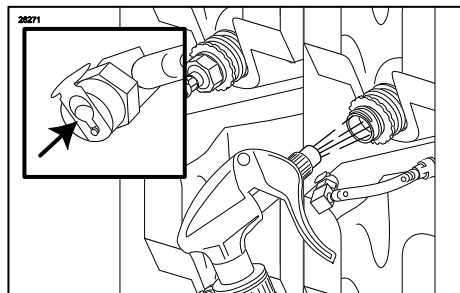

Figure 161
10. Using a spray bottle of approved sanitizer solution, spray the syrup bag fitment and the Syrup Bag Connector. Allow these parts to sanitize for at least 1 minute. (See Figure 161.)